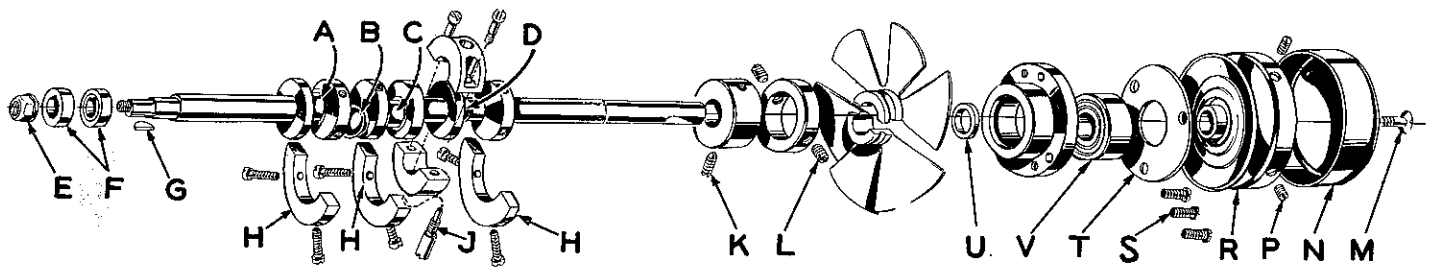
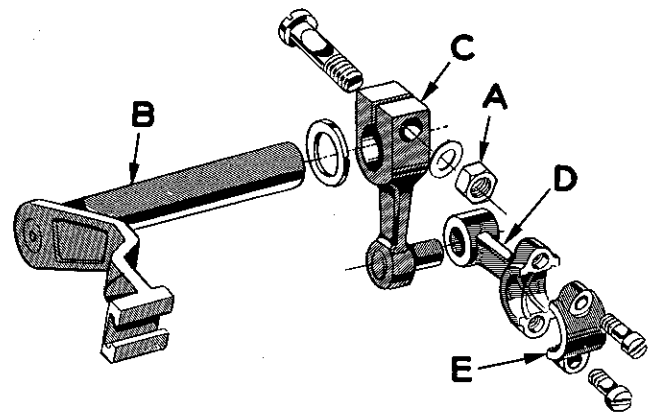

Fig. 17
Fig. 18
3. Remove feed eccentric nut (E, Fig. 17) and, with the aid of the eccentric extractor, slip off the eccentrics (F).
4. Remove key (G).
5. Remove three counterweights (H). Identify these counterweights so that they will be re-assembled in the proper places.
6. Remove screw (J) which holds crankshaft split bearing. This screw is reached through bottom of bed casting.
8. Loosen clamp nut (A, Fig. 18) which holds upper knife driving arm (E). Access to clamp nut is through top cover. Draw driving arm to the left until upper knife driving lever (C) and connecting rod (D) drop, allowing removal of bearing cap (E). This is at bearing point (C, Fig. 17) on crankshaft. Observe same precautions when re-assembling cap as described in 7 above.
9. Remove screw (K, Fig. 17) which holds inner right crankshaft bearing. This screw is reached through bottom of bed casting.
10. Loosen two screws (L) in fan collar; remove both halves of cooling fan.
11. Remove screw (M); take off pulley cap (N).
12. Loosen two screws (P); remove pulley (R).
13. Remove three screws (S); take off bearing retaining plate (T).
15. If necessary to replace ball bearing (V), it should be pressed off shaft on an arbor press. In replacing bearing it must be pressed on carefully until it seats against ground thrust washer (U).